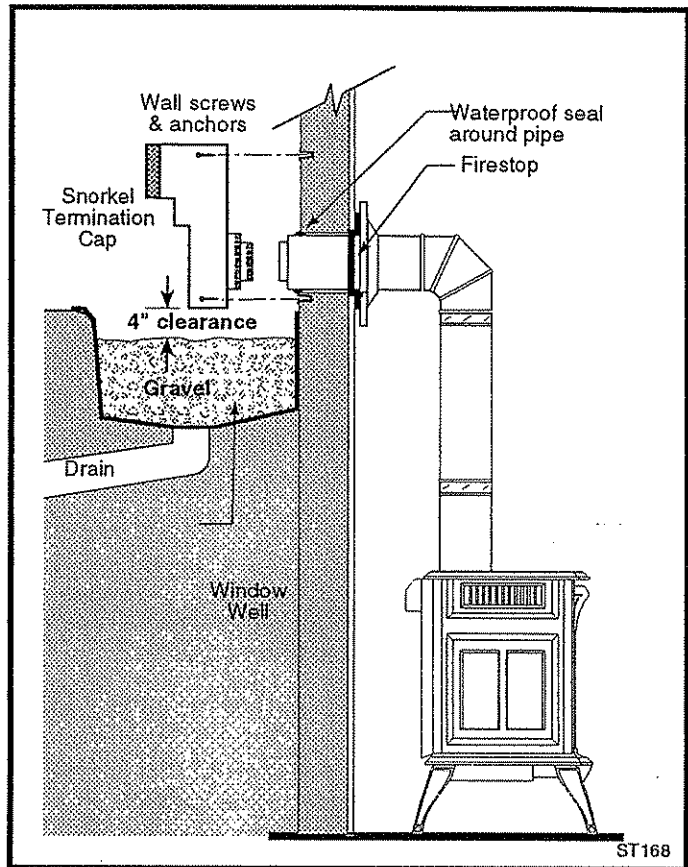

Fig. 36 Snorkel kit installation.
Snorkel Vent Kit #7FSDVSKS should be installed when it is not possible to meet the required vent termination clearances of 12 inches (305mm) above grade level. The snorkel kit will allow installation depth of down to 7 inches (178mm) below grade level. The 7 inches is measured from the center of the horizontal vent pipe as it penetrates through the wall. **If the venting system is installed below ground, a window well must be installed with adequate and proper drainage.** (Fig. 36)
2. Remove soil to a depth of approximately 16" below the base of the snorkel. Install a window well (not supplied). Refill the hole with 12" coarse gravel and maintain a clearance of at least 4" below the snorkel. (Fig. 36)